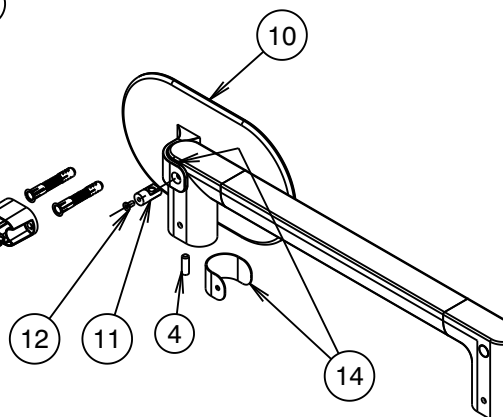

Fig. 2
- 6) If shelf (10) is required, loose screw (4) from back of post to remove insert (6) fit insert (10) with threads (11) into support rail from insert hole as shown in Fig. 2, fit shelf with gasket (14) onto support rail as shown in Fig. 2 to ensure the hole of shelf (10) and gasket (14) align with insert hole, then tighten screw (12).
- 7) Rail can now be installed onto mount blocks (2) and secured using mounting screws (9).